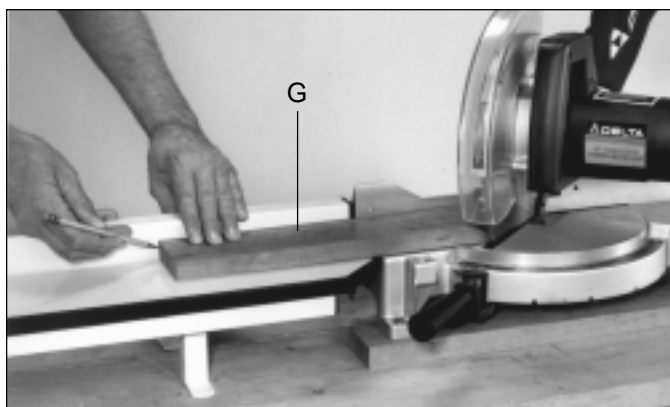

Fig. 5
6. Cut a piece of stock (G) Fig. 5, at the 45 degree left miter angle and without moving the work piece, make a mark on the miter table fence at the end of the work piece, as shown.